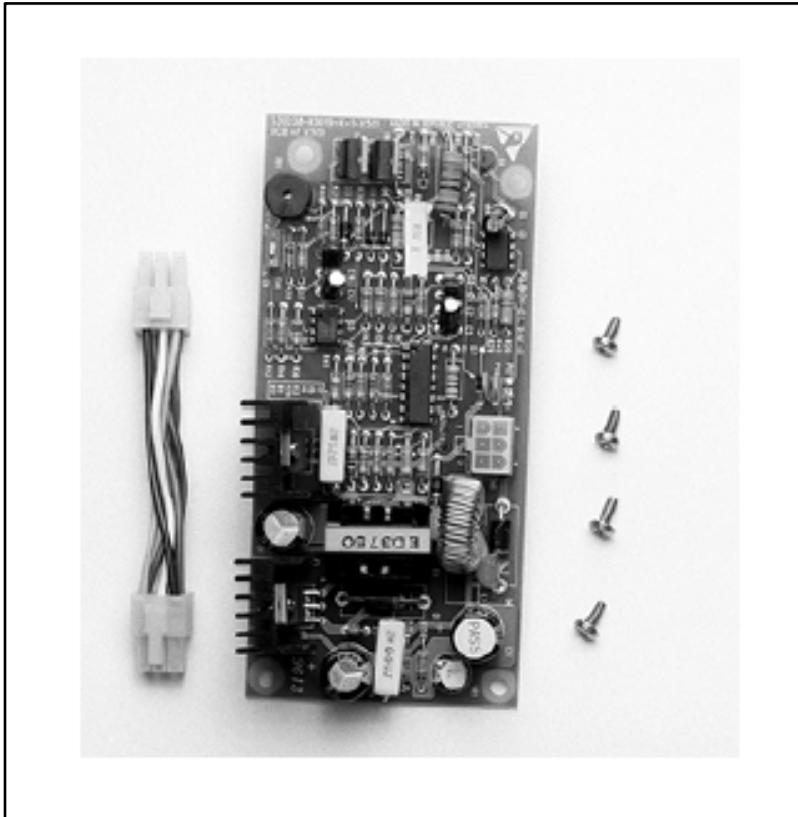

Figure 3-7: Optional Battery Charging Unit (BCU)
1. Remove the four screws on the DCCU and remove the cover. Unpack the Battery Charging Unit. There should also be a cable and four screws in the package. Locate the four screw locations on the DCCU where the BCU card is installed. Refer to Figure 3-7.